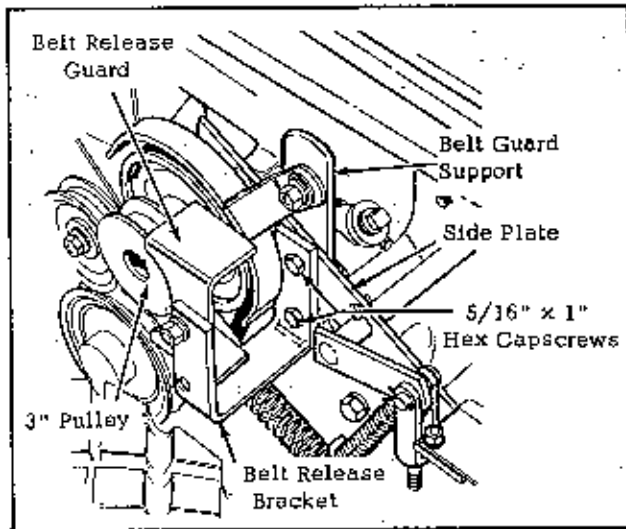

Fig. 5
1. Fasten the belt release bracket to the outside of the side plate with the two 5/16" x 1" hex capscrews as shown in Figure 5.
2. Mount the tiller belt release guard to the belt release bracket as shown in Figure 5. The concave surface of the tiller belt release guard is to face the bevel gear shaft.
3. Mount the 3" tiller drive pulley to the bevel gear shaft with its key, as shown in Figure 5. The hub of the pulley faces in toward the tractor. Leave the set screw loose until making final alignment.
6. Place the off-set end of the guide assembly rod into the hole in the belt release bracket and fasten in place with a hair pin cotter. See Figure 5.